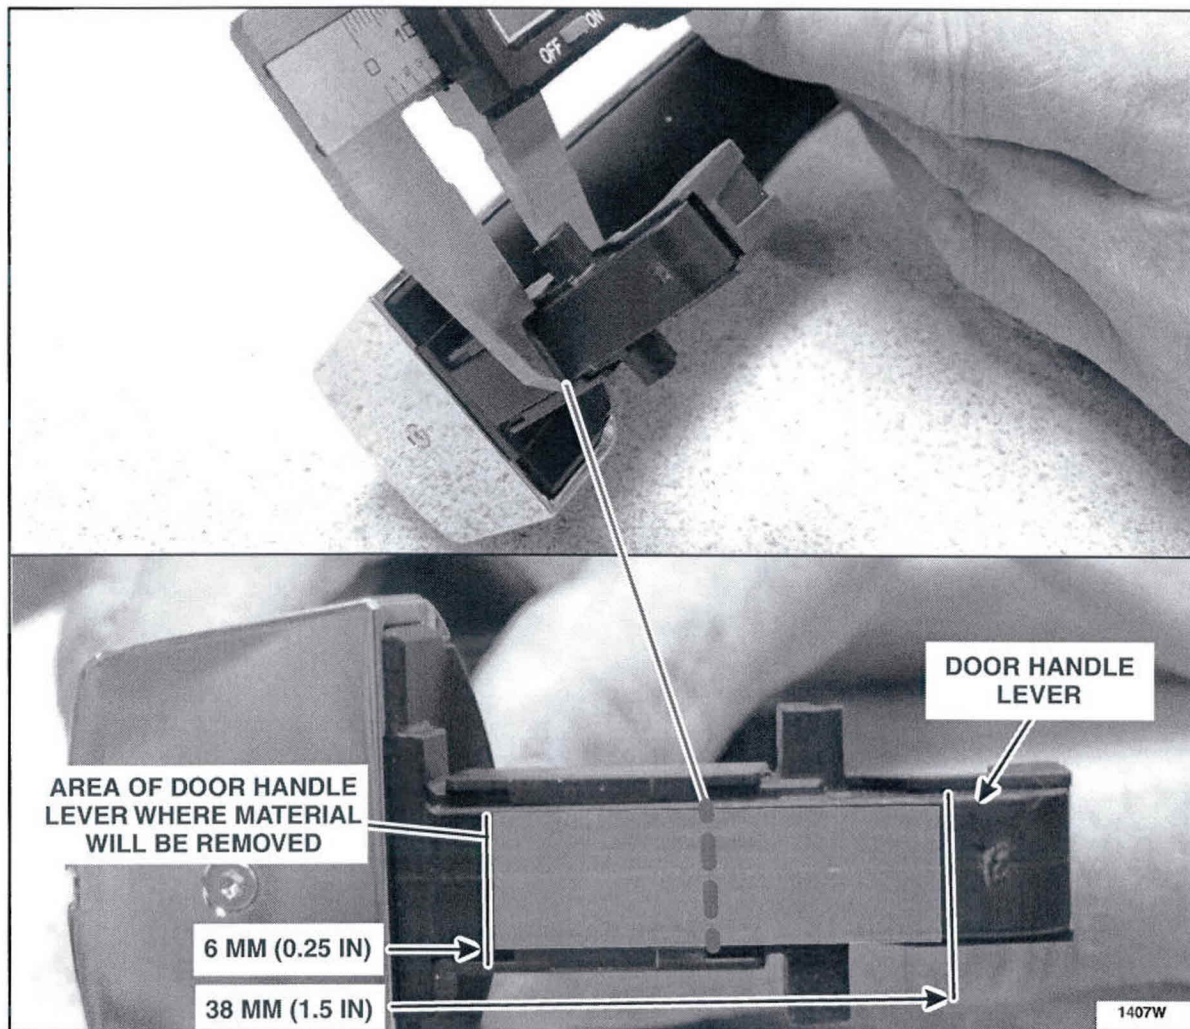

FIGURE 10
4. Using a digital caliper, measure and record the door handle lever thickness at the center of the area where material will be removed. See Figure 10.